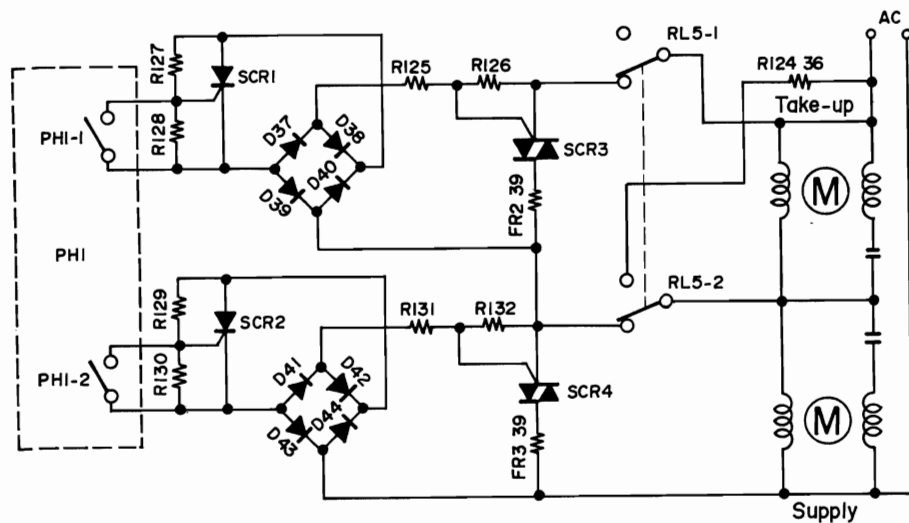

Fig. 6-44
turn TR42 ON and RL5 ON. Fig. 6-44 shows the condition when RL5 is ON. R124 36 ohms so far attached is disconnected from the take up reel motor. Suppose the signal of IC2 (22) (reel motor control) is in "L". TR40 is OFF via R108, and TR38 is turned OFF via R104. TR38 collector will be "H". The base of TR49 will be "H" through R106 to turn TR39 ON, i. e., the switch of PH1-2 is ON. Therefore, PH1-1 will be ON when PH1-2 is OFF or vice versa.